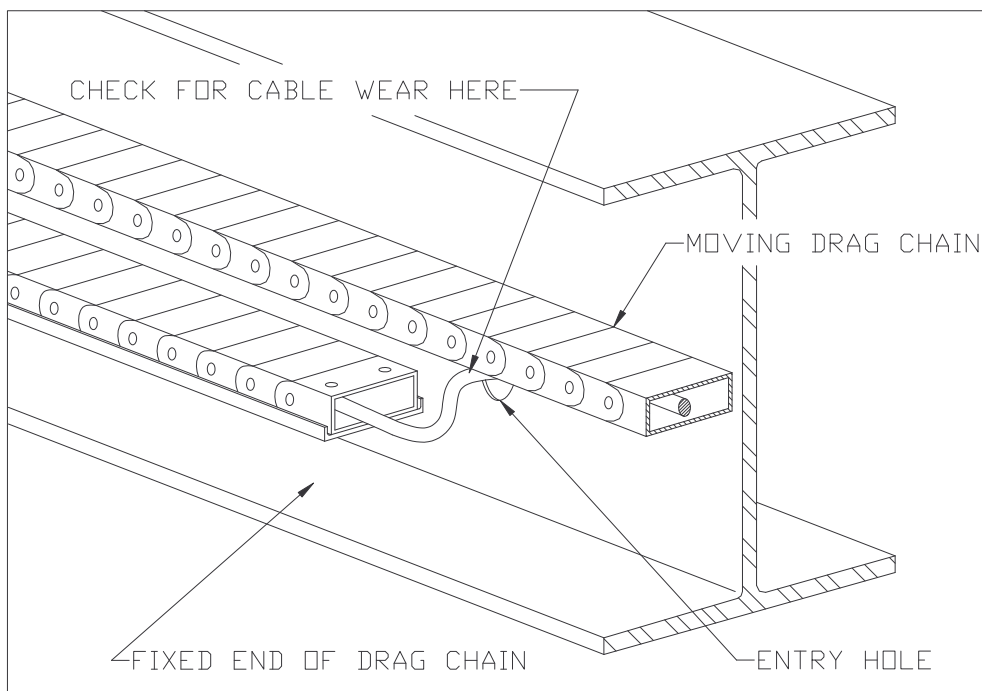

FIGURE 2 - Electrical Power Cable Wear Location
- Isolate the power supply. Have a qualified electrician inspect the power supply cable for damage or wear. See Figure 2. Check that the moving drag chain can not rub on the cable. If the cable is damaged, worn, or shows any signs of rubbing, replace that section of the cable. Lower the cable entry point so that the moving drag chain can not rub on the cable, and run the cable in heavy duty conduit for additional protection.